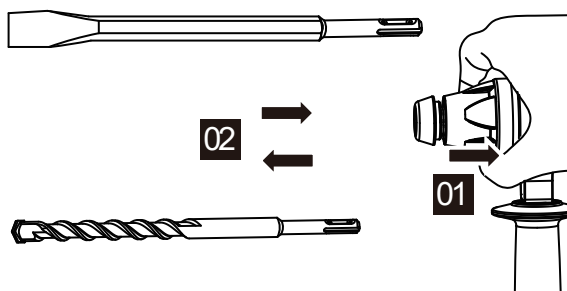

Figure 3
3. INSERTING AND REMOVING SDS DRILL BIT (SEE FIG. 3)